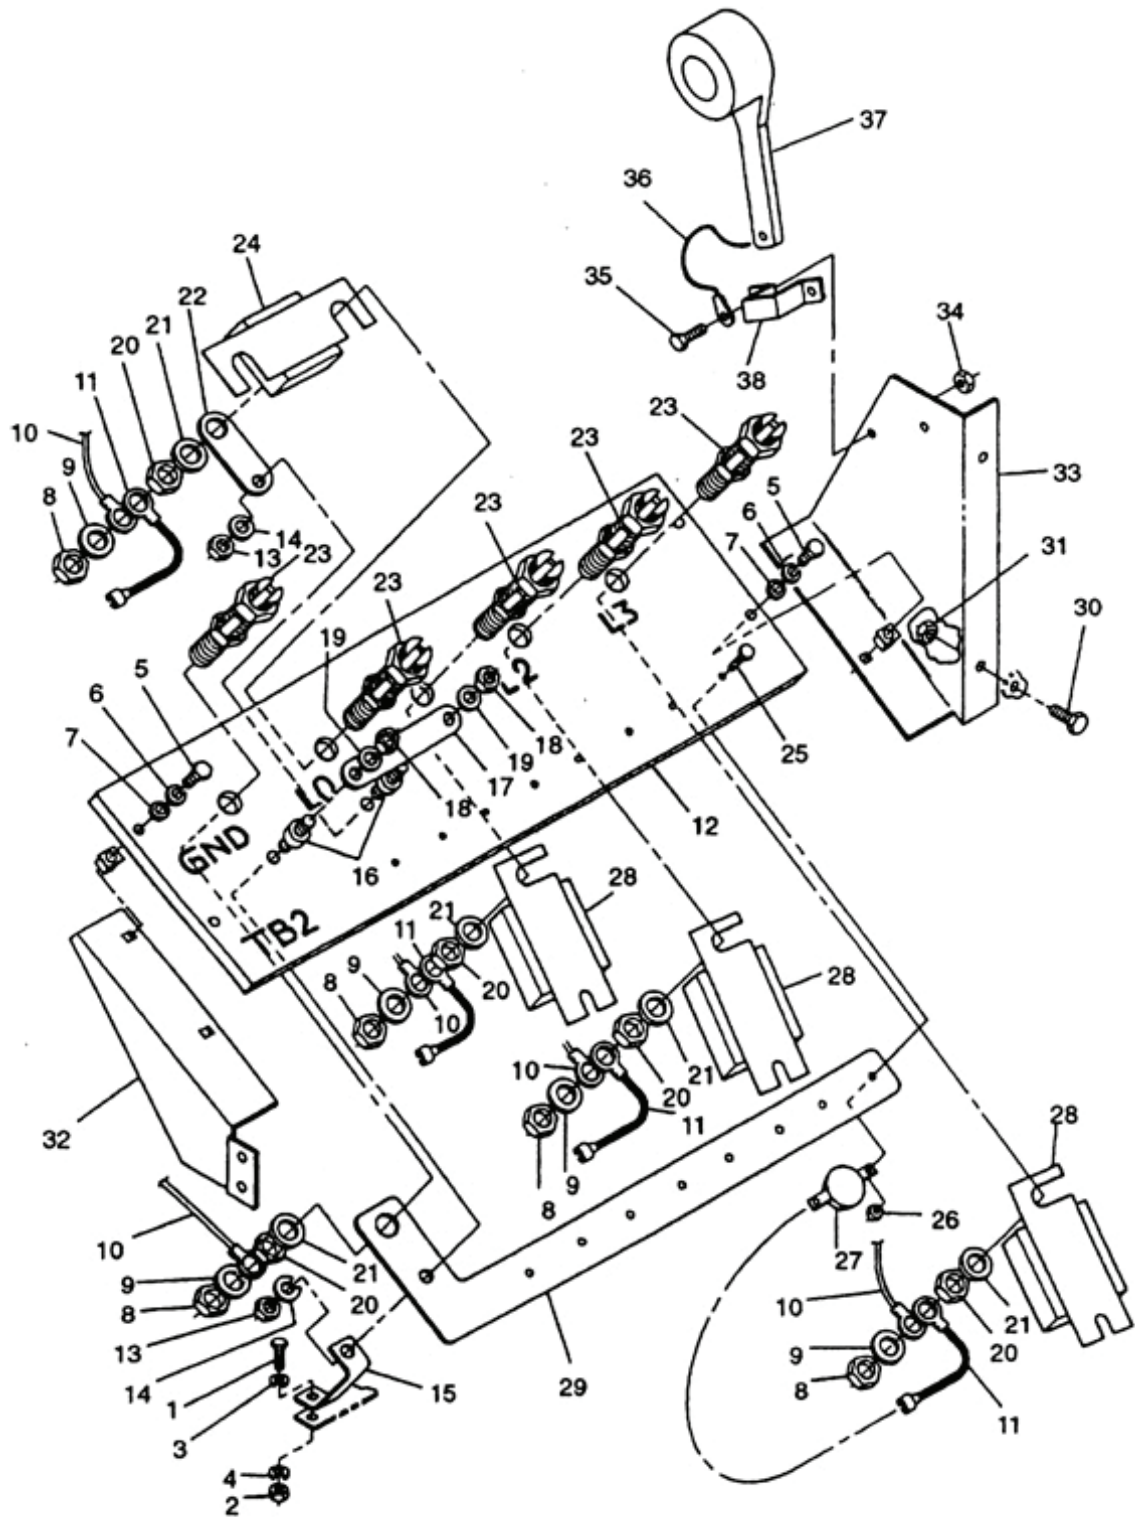

Figure 2-34. Load Terminal Board Assembly.
- e. Remove bolt (1, Figure 2-34), nut (2), flat washer (3), and lock washer (4) securing ground strap (15) to skid base. Discard lock washer (4).
- f. Remove bolts (5), lock washers (6), and washers (7) securing terminal board assembly (12) to supports. Discard lock washers (6)
- g. Remove nuts (8) and washers (9). Tag and disconnect all main power leads (10) and varistor leads (11) from load terminals (23).
- h. Remove terminal board assembly (12) from generator set.
- j. Remove EMI filter (24) positioned between L0 and GND terminals (23).
- k. Remove varistor leads (11) from varistors (27).
- m. Remove EMI filters (28) positioned between load terminals (23) and varistors (27).
- n. Remove nuts (13), washers (14), ground strap (15), studs (16), bus bars (17 and 22), and ground plane bar (29) from terminal board (12).
- o. Remove nuts (18) and washers (19) from studs (16).
- a. Install load output terminal board supports (32 and 33, Figure 2-34) in generator set with bolts (30) and nuts (31).
- b. Install ground plane bar (29), bus bars (17 and 22), and ground strap (15) on terminal board (12) with studs (16), washers (14 and 19), and nuts (13 and 18).
- c. Position EMI filters (28) between varistors (27) and L1, L2, and L3 load terminals (23) mounting holes.
- e. Position EMI filter (24) between L0 and GND terminals (23) mounting holes.
- g. Connect leads (11) to varistors (27).
- h. Position load output terminal board assembly in generator set and connect varistor leads (11) and main power leads (10) to load terminals (23) with washers (9) and nuts (8). Remove tags.
- i. Secure terminal board assembly to supports with washers (7), new lock washers (6), and bolts (5).
- j. Apply a thin coat of antiseize compound (Item 6, Appendix C) to skid at ground strap (15) attaching point.
- k. Install bolt (1), flat washer (3), new lock washer (4), and nut (2) securing ground strap (15) to skid base.
- e. Remove nuts (20, Figure 2-34), copper washers (21), and load terminals (23) from terminal board assembly (12).
- a. Install load output terminals (23, Figure 2-34) on load output terminal board assembly (12) with copper washers (21) and nuts (20).
- d. Tag and disconnect varistor leads (11, Figure 2-34) from varistors (27).
- e. Remove nuts (26), bolts (25), and varistors (27) from load terminal board assembly (12).
- a. Install varistors (27, Figure 2-34) on load output terminal board assembly (12) with bolts (25) and nuts (26).
- b. Connect varistor leads (11) to varistors (27). Remove tags.